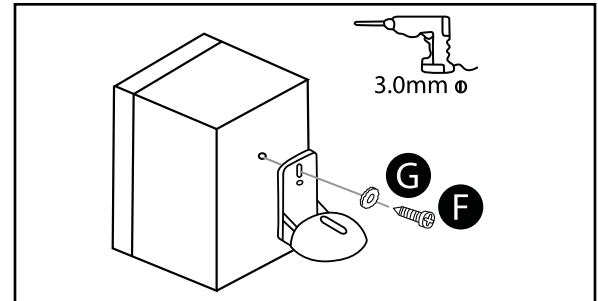

Figure 2 - Screw fixing
A. Attaching to a Speaker with no Screw holes or Keyhole (see Figure 2)
3. Once predrilled hole is complete, use a 3/4" No.8 Woodscrew (F) and M8 Washer (G) to attach the plate to the speaker, and do not over tighten.